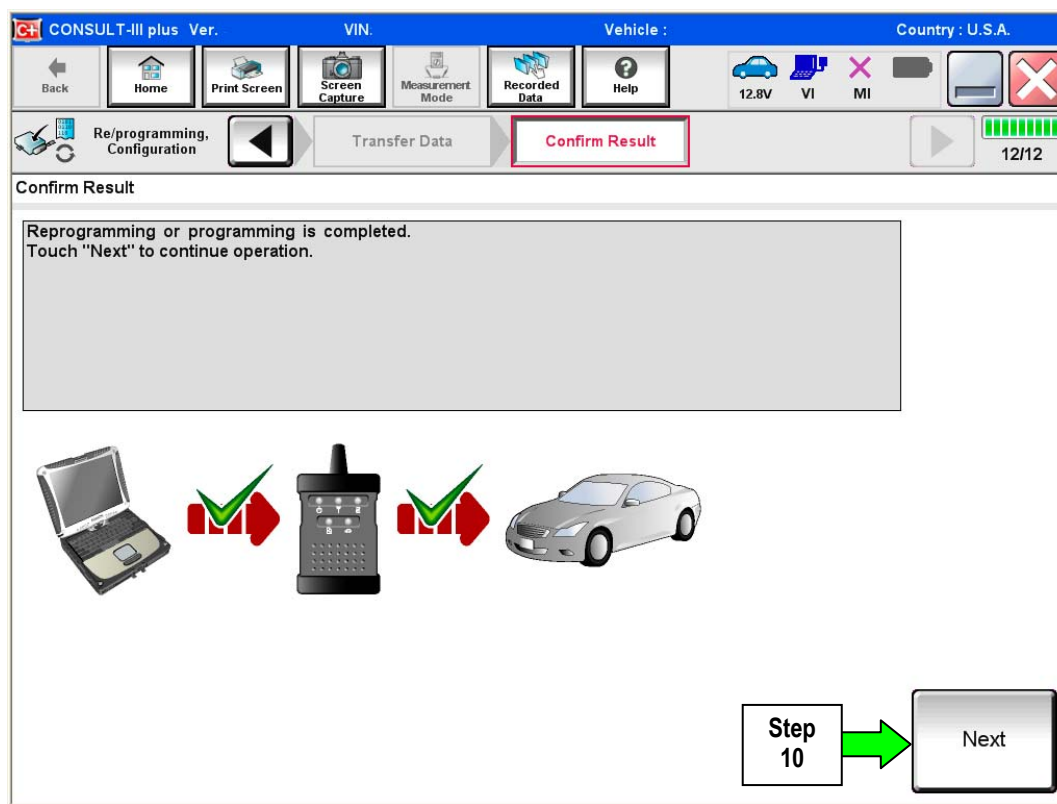

Figure 6
8. When the screen in Figure 6 displays, reprogramming is complete.
NOTE: If the screen in Figure 6 does not display (reprogramming does not complete), refer to the information on the next page.